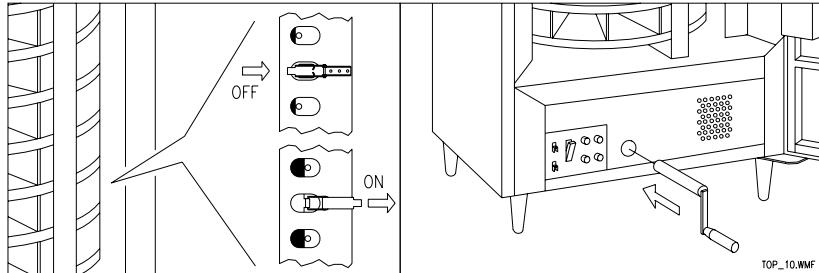

FIG. 10
- 2) Retract the pistons FIG. 10.
- 4) Retrieve the special crank handle from the base of the machine and locate on the bar FIG. 10.